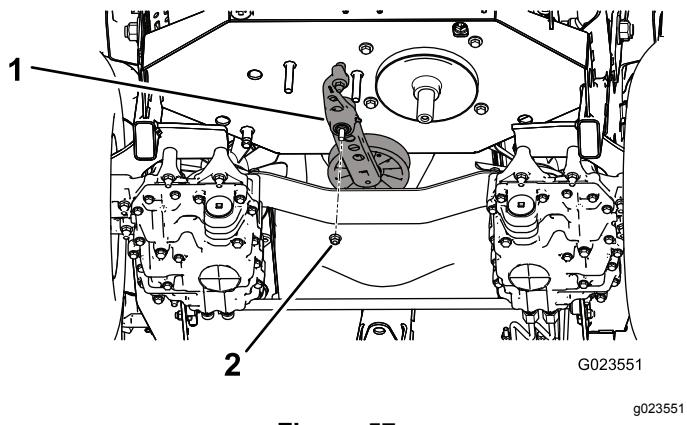

Figure 57
5. Remove the nut that secures the tensioner assembly to the frame (Figure 57).